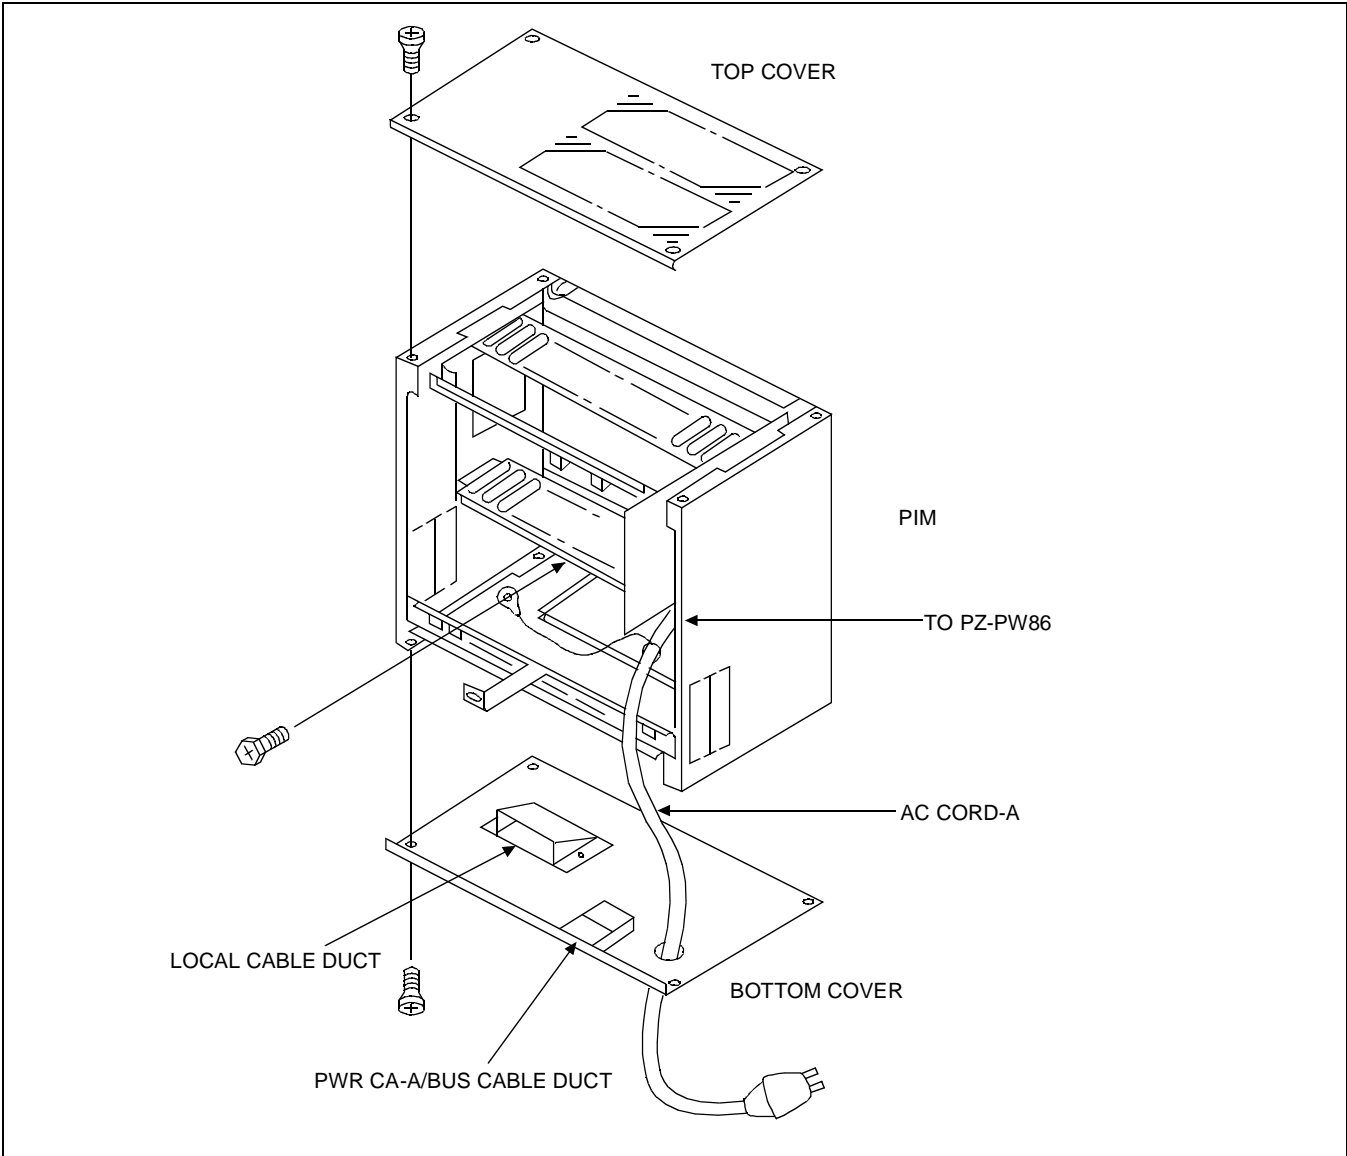

Figure 003-25 Connecting the Covers and AC CORD-A to the PIM
- (1) Before mounting the PIM, connect the TOP COVER, BOTTOM COVER and AC CORD-A to the PIM as shown in Figure 003-25. The AC CORD-A is pre-installed with the BOTTOM COVER.